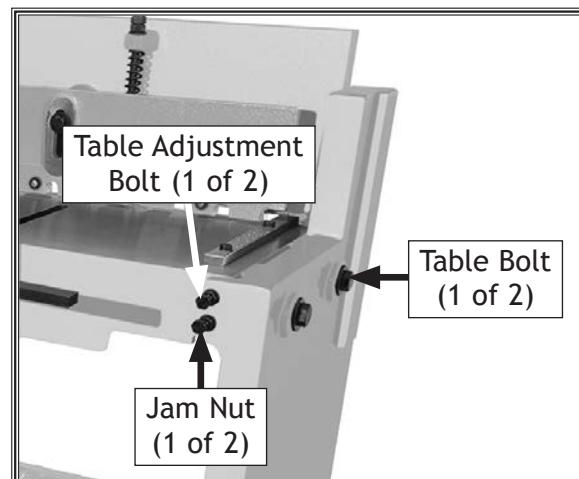

Figure 29. Location of blade gap adjustment components.
2. Loosen (2) table bolts, (2) table adjustment bolts, and (2) jam nuts on side of shear that needs adjustment (see **Figure 29**).